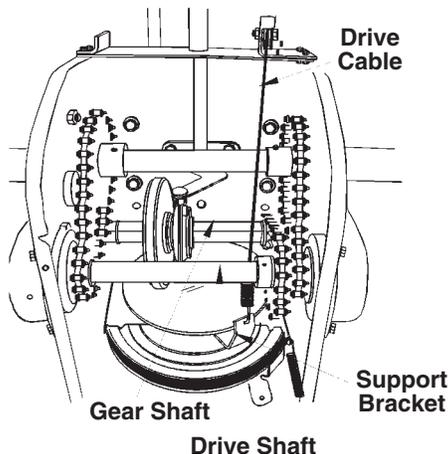

FIGURE 2.
1. Remove rear cover. Oil any chains, sprockets, gears, bearings, shafts, and shifting mechanism at least once a season. Use engine oil or a spray lubricant. **Avoid getting oil on rubber friction wheel and aluminum drive plate.** See figure 2.
2. If for any reason your transmission was disassembled and the drive cable disconnected, make sure when reassembling to pass the cable between the drive shaft and the gear shaft before reconnecting to support bracket. See figure 2.